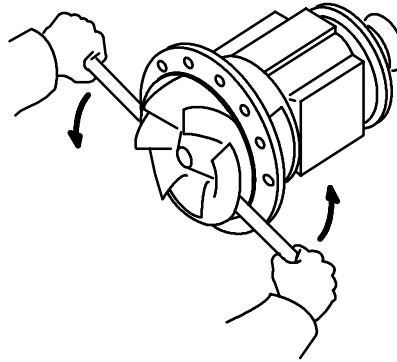

Fig. 5
- 3 Detach the impeller by turning it counter-clockwise. Push e.g. pieces of wood between the impeller vanes to ease the detachment. Never use metal bars or the like, because they might damage the impeller vanes. Fig. 5.